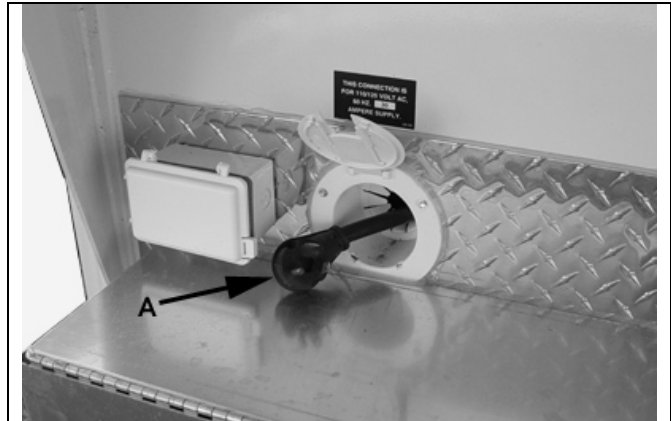

Figure 6-6 – Shore Power Cord
- Open cover and pull shore cord (A) from storage bay. See figure 6-6.